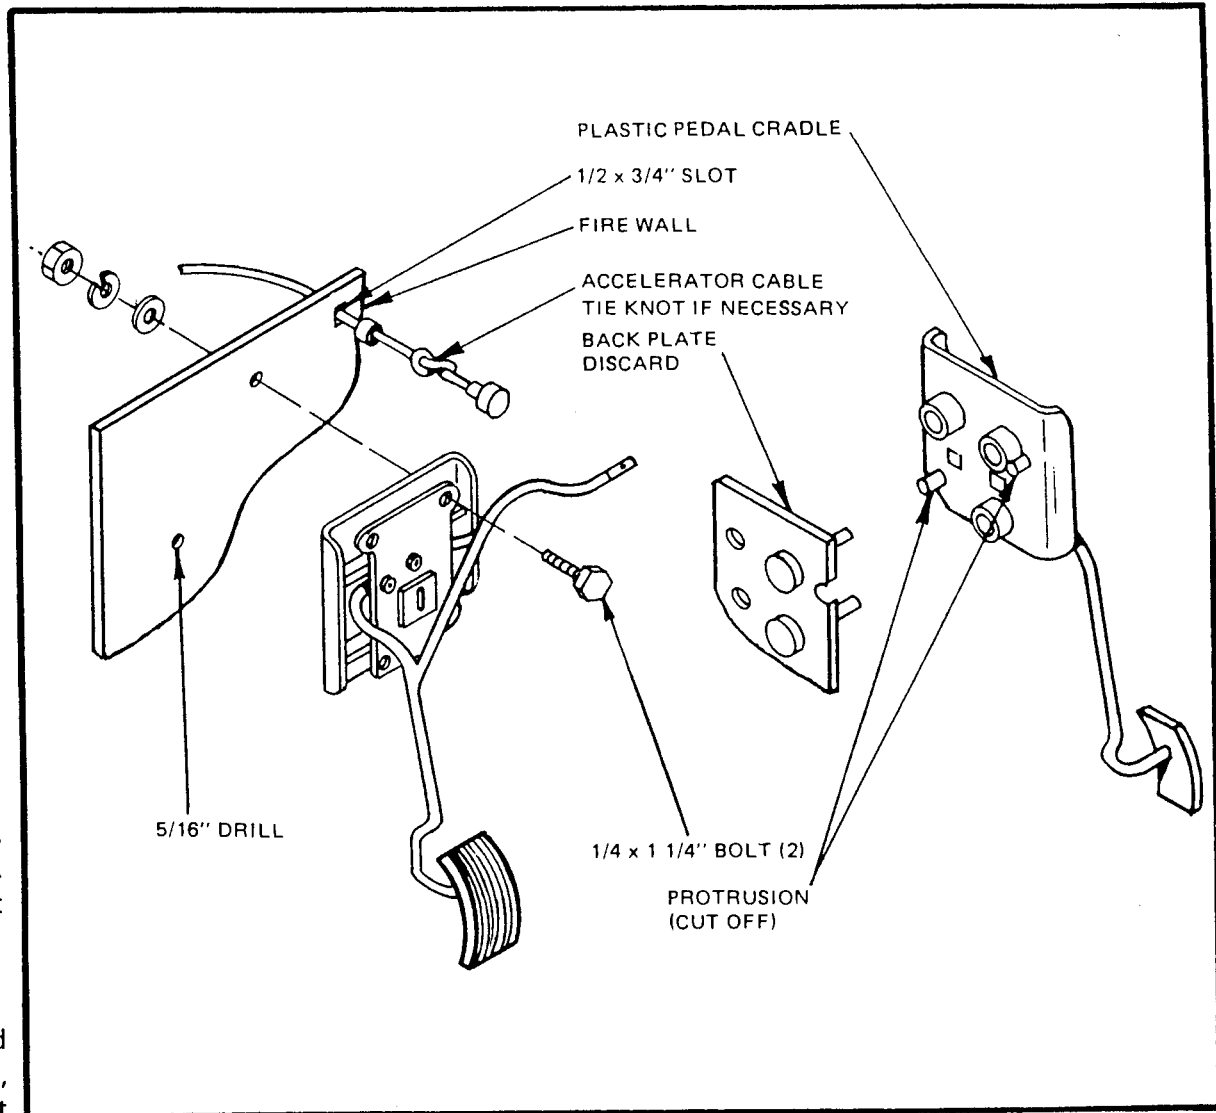

Figure 28
- Place grommet through slot in firewall. (Refer to Figure 28 for slot location). Twist to secure. Attach pedal to cable. Note if cable is too long, simply tie knot between stops as shown.